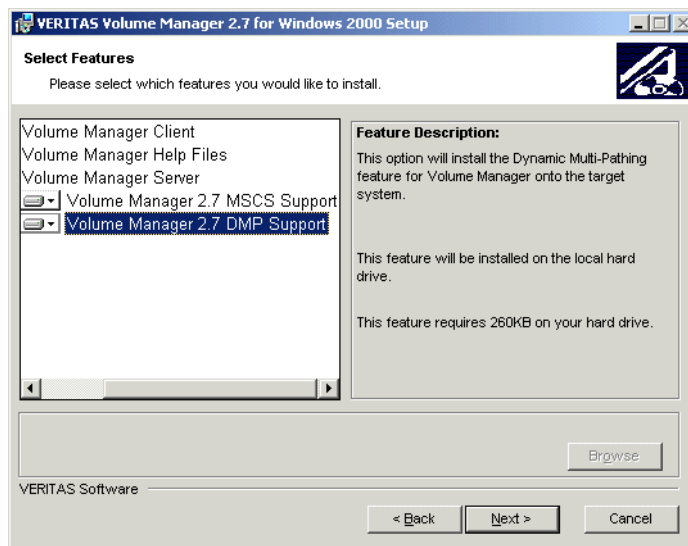

Figure 9-22 Veritas VxVM features to install
5. The Select Features window appears as shown in Figure 9-22. Select the desired features and do not forget to select the **Volume Manager X.X DMP Support** feature. Otherwise, you will be unable to use the multipathing feature of the VxVM.